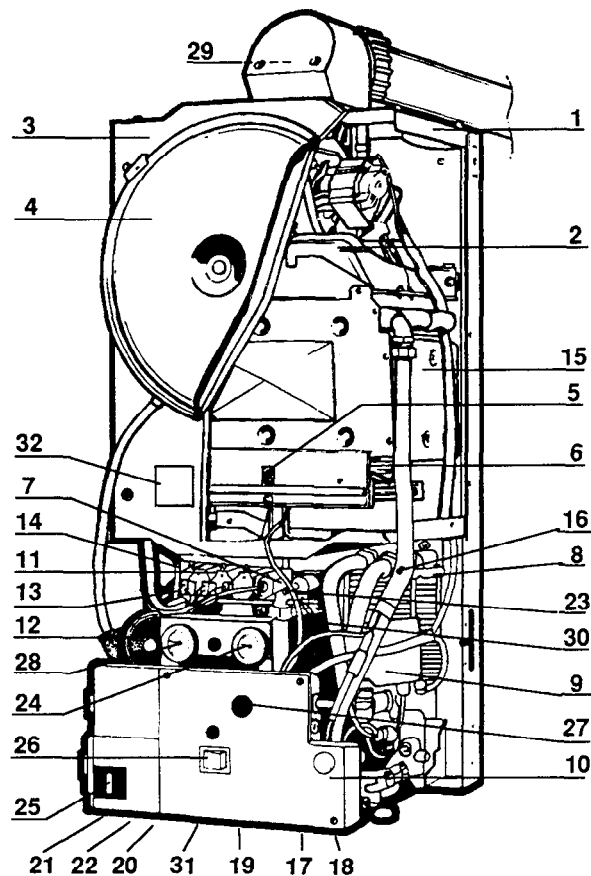

Fig. 4
Should the central heating water flow reduce to below 300 l/h (1.1 gal/min) the gas supply to the burner is turned off, see fig. 4 (31) and figs. 5 & 6 (37).